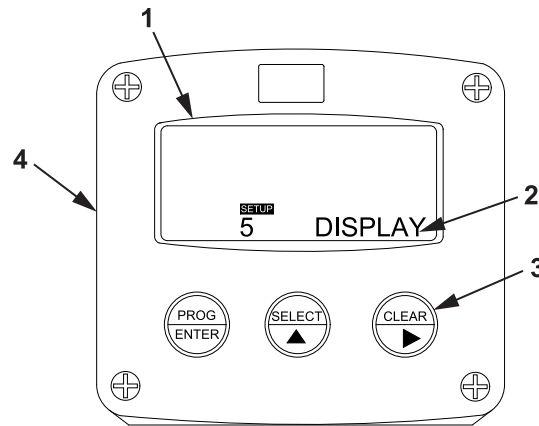

Figure 28. DISPLAY Display.
- d. Verify that DISPLAY (Figure 28, Item 2) appears on the display screen (Figure 28, Item 1).
- e. Press the CLEAR key (Figure 28, Item 3) on the tank volume meter monitor (Figure 28, Item 4).